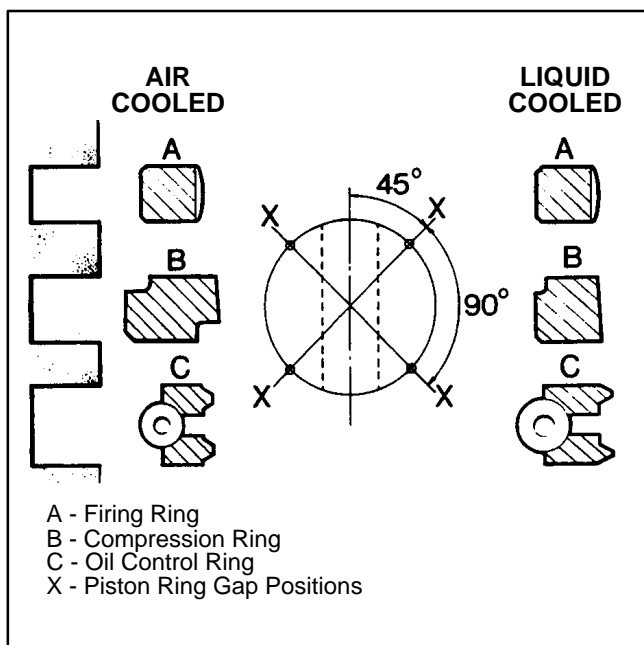

FIGURE 8-18. PISTON RING AND GAP LOCATIONS
**Piston Rings:** Piston rings are available as sets and should only be installed as sets (Figure 8-18):
6. Stagger the piston ring gaps as shown at "X" in Figure 8-18. Each ring gap must be set at 90° to the adjacent rings and 45° from the piston pin axis.